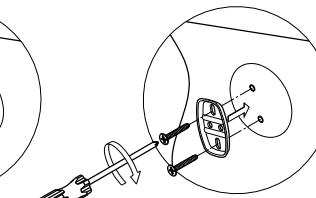

Fig. 5
Step 5. Screw the mounting plate (with the lips facing out) to the wall with the mounting screws (fig 5).